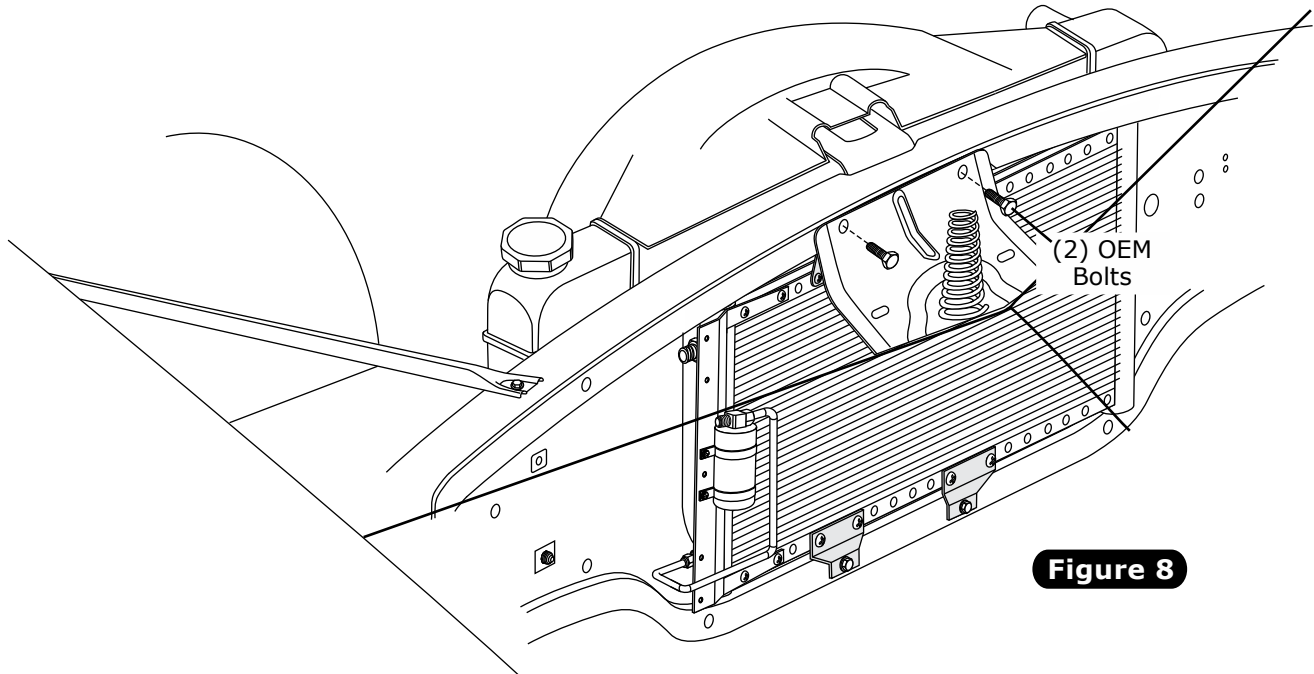

Figure 8
1. Reinstall hood latch assembly using OEM bolts as shown in Figure 8, below.